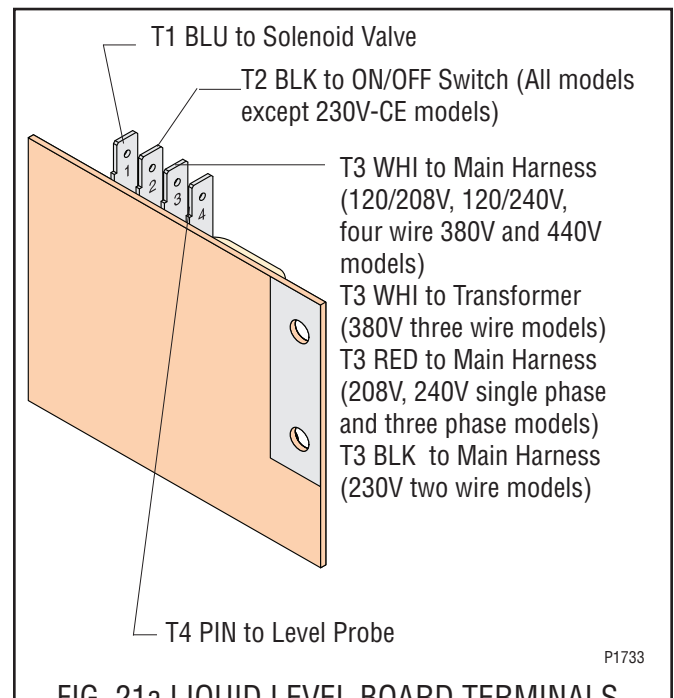

FIG. 21a LIQUID LEVEL BOARD TERMINALS
7. Refer to Fig. 21a and reconnect the wires.